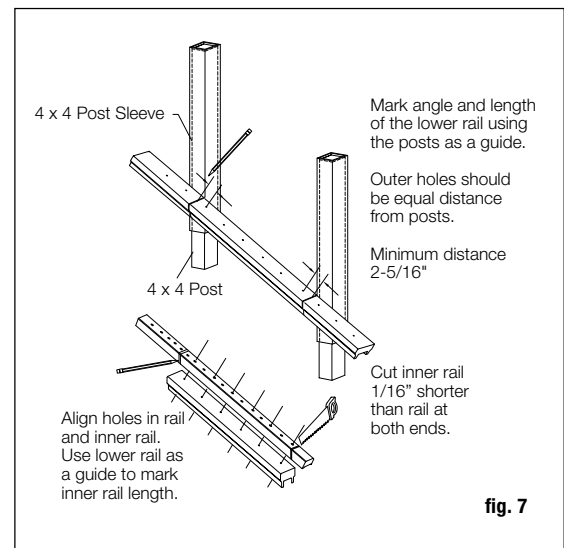

fig. 7
Step 5 *Note: To ensure the balusters are installed plumb, the holes between the rail sections must all be aligned.* *Tip: Use a gauge pin or a 3/32" drill bit to ensure the holes are aligned.* Using the trimmed lower rail as a guide, set the upper inner rail on top of the trimmed lower rail and align the pre-drilled holes. Mark the cut lines on the inner rail with a pencil. *Note: To allow for the thickness of the brackets, the inner rails should be 1/8" shorter than the lower rails with all holes equally spaced.* Remove an additional 1/16" from the pencil mark on each end and trim the inner rail to length. Repeat for the second inner rail (fig. 7).